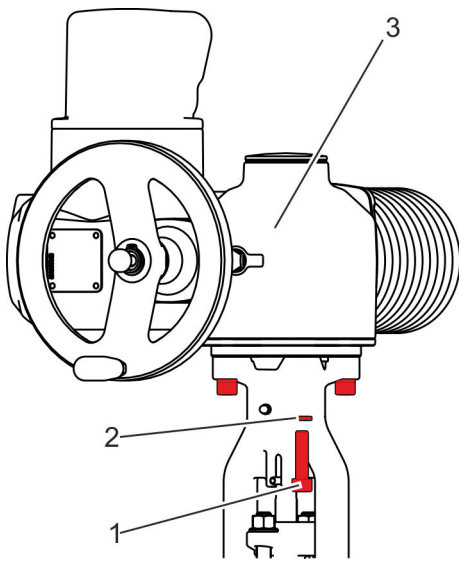

Fig. 35: Removing the screws
2. ➤ Unscrew the fastening screws (Fig. 35/1) of the electric actuator (Fig. 35/3) and remove them together with the washers (Fig. 35/2).
3. ➤ Take off the electric actuator (Fig. 35/3) and store it outside of the work area.